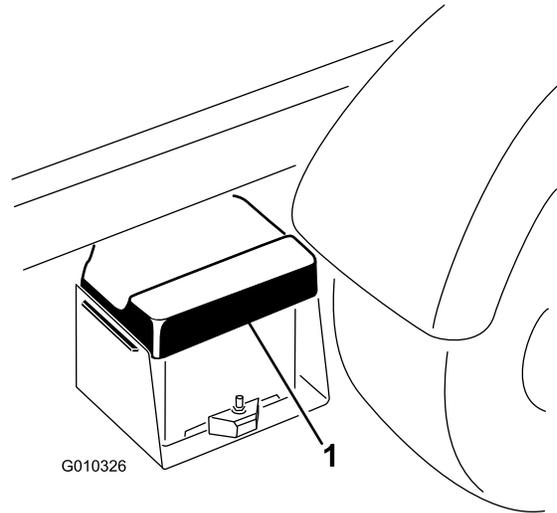

Figure 51
1. Squeeze the battery cover to release the tabs from battery base, and remove the battery cover from the battery base (Figure 51).